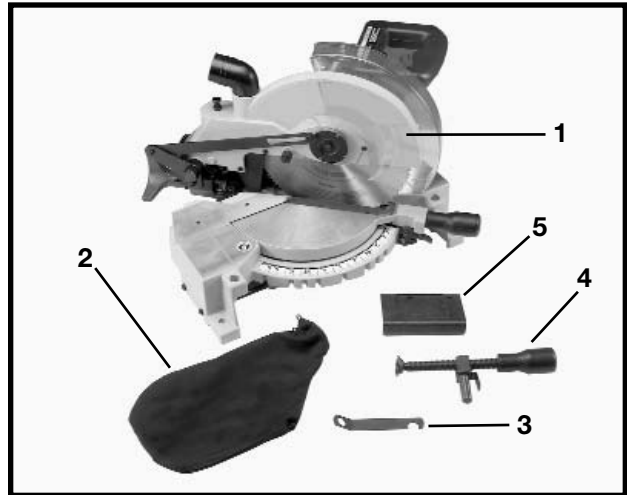
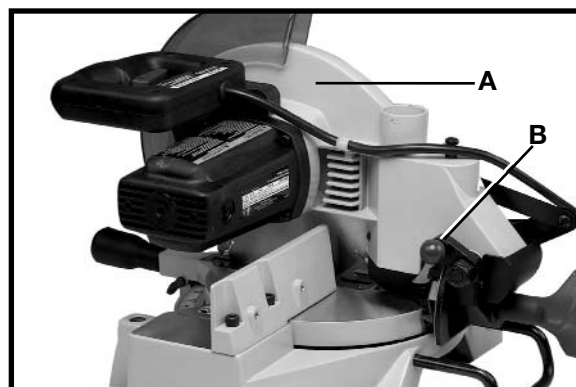
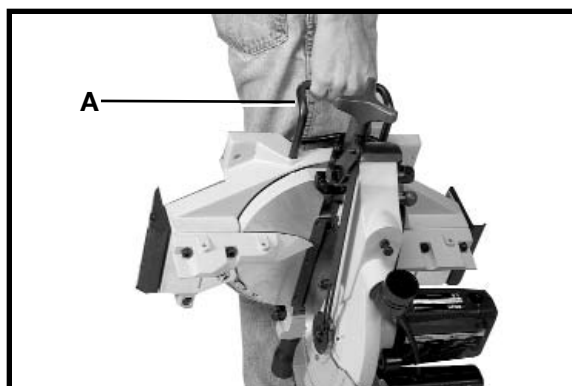

Fig. 2
Fig. 15
Fig. 18
Remove the miter saw and all loose items from the carton. **IMPORTANT: CARRYING THE MACHINE BY THE SWITCH HANDLE WILL CAUSE MISALIGNMENT. ALWAYS LIFT THE MACHINE BY THE BASE OR BY THE CARRYING HANDLE (See Fig. 18).** Fig. 2 illustrates the machine and all loose items after they have been removed from the carton.
When transporting the saw, the cuttinghead should always be locked in the down position. Lower the cutting arm (A) Fig. 15, and push in plunger (B) until other end of plunger (B) engages with hole in cutting arm. **IMPORTANT: CARRYING THE MACHINE BY THE SWITCH HANDLE WILL CAUSE MISALIGNMENT. ALWAYS LIFT THE MACHINE BY THE BASE OR BY THE CARRYING HANDLE (See Fig. 18).**
The support bar (A) Fig. 18 can also be used to carry the machine.